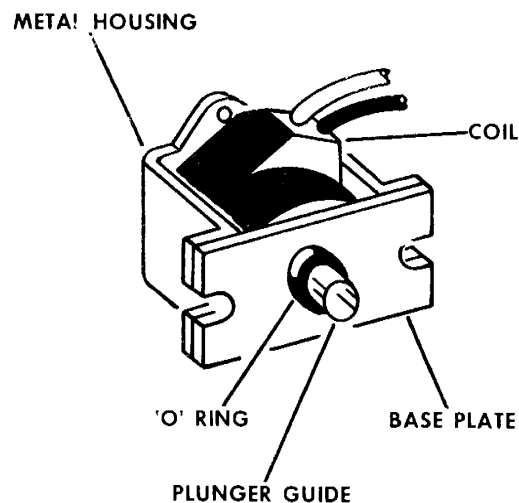

Figure 9
- c. When replacing the coils, be sure the rubber O ring is seated on the plunger guide under the metal base plate, Figure 9.